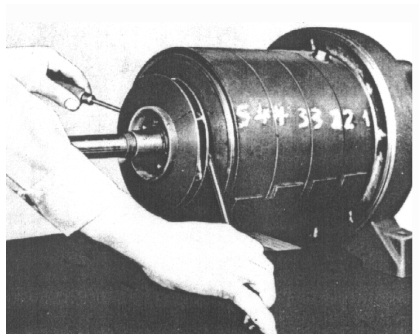

Fig. 11
- Disassemble the Rotor of the last stage and its Key. To do this, make a lever in the region supporting the vanes so that breaks and cracks do not occur. (See fig. 11)